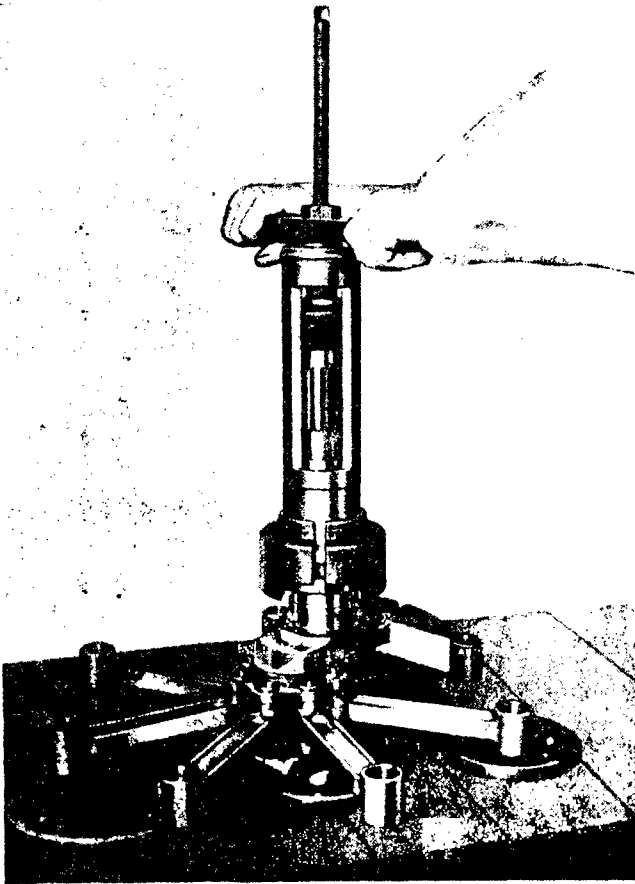

Figure 46—Removing Front Main Crankshaft Bearing
(1) Install the puller assembly, tool No. A4230, over the propeller shaft, and with flange, tool No. 3484, linking it to the front main bearing, turn the puller operating screw and "pull" the front main bearing. (See figure 46.)
(2) Place the propeller shaft end of the